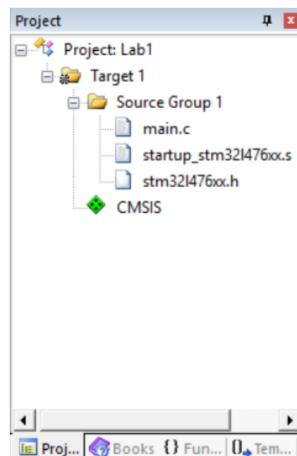

Figure 5: Add Files to Project
4. In the **Project** window, add files `main.c`, `stm32l476xx.h`, and `startup_stm32l476xx.s` (see Figure 5).